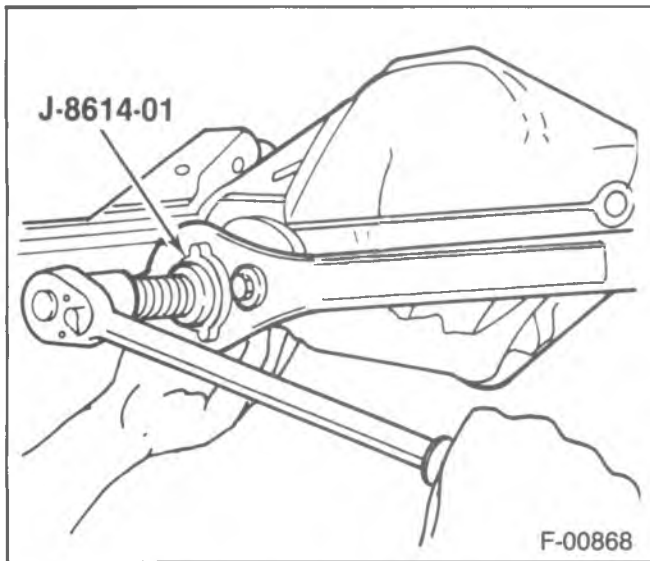

Figure 19—Removing the Drive Pinion Flange
- Use the special nut and forcing screw to remove the flange (figure 19).